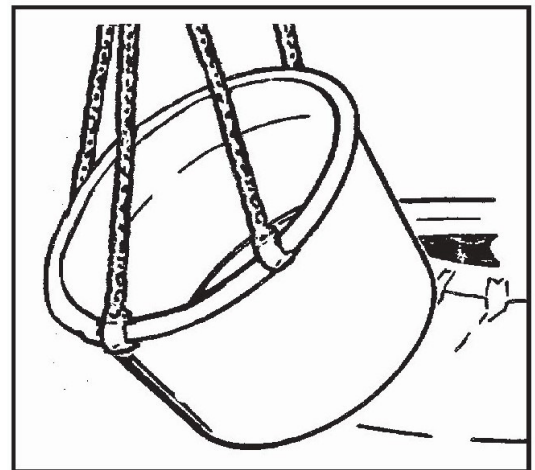

Figure 10
3. Flange Ring Puller Model 90300 will make handling easier. (See Fig. 10.)